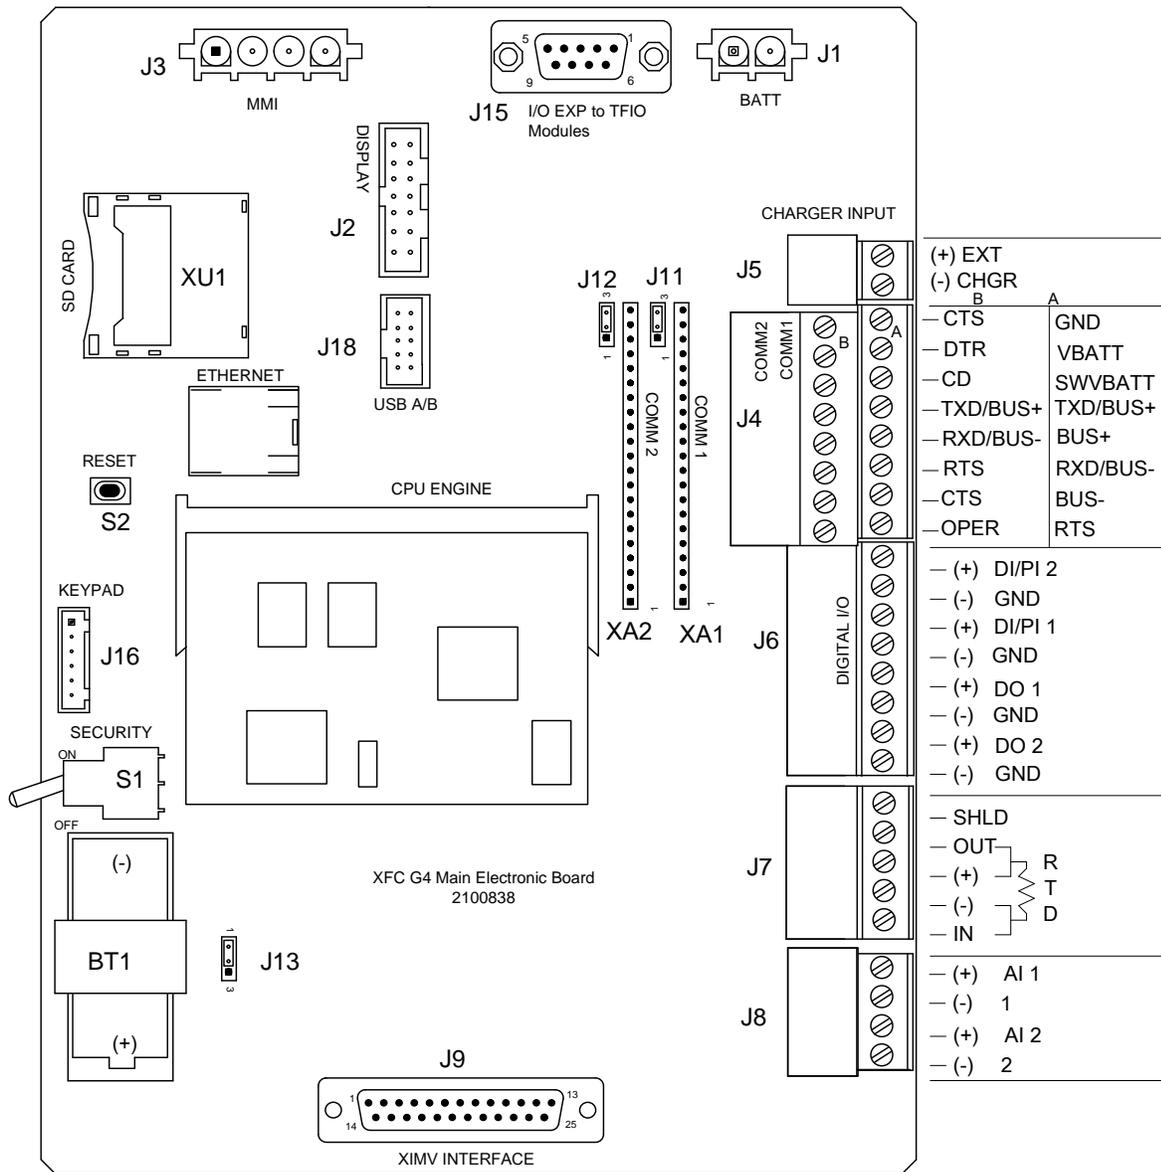

Figure 98: XFC^{G4} Main Electronic Board
2. Check for a poor cable connection in the cable between the circuit board and the J1 battery pack and the J5 charging source (Figure 98:).
5. Check the solar panel wiring to be certain it is correctly connected to the associated J5 charger input termination block (Figure 98:).